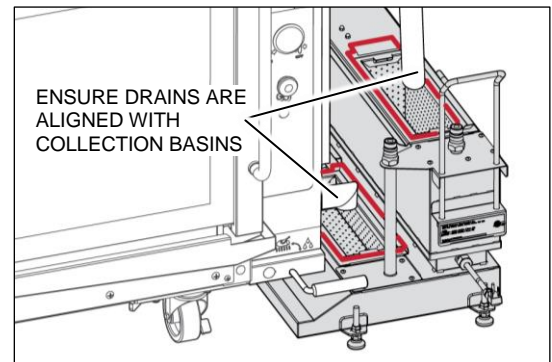

Figure 4-2
2. Verify that the collection reservoir is properly positioned under the grease drain from each rotisserie (Figure 4-2)